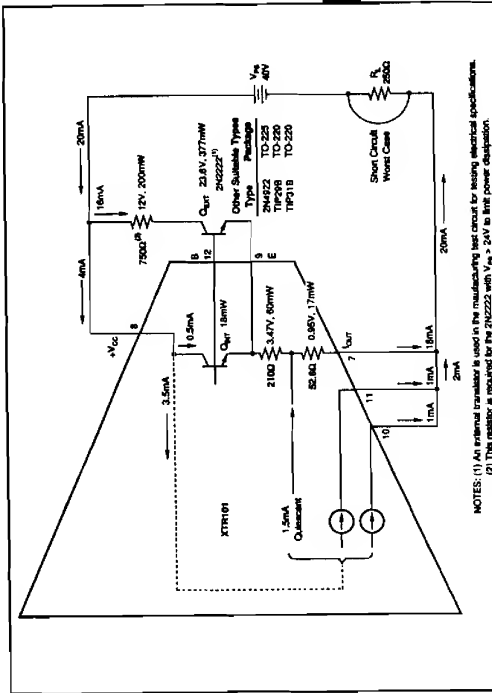

FIGURE 2. Power Calculation of XTR101 with External Transistor.
An optional external transistor, when used, is connected in parallel with the XTR101's internal transistor. The purpose is to increase accuracy by reducing heat change inside the XTR101 package as the output current spans from 4-20mA. Under normal operating conditions, the internal transistor is never completely turned off as shown in Figure 2. This maintains frequency stability with varying external transistor characteristics and wiring capacitance. The actual "current sharing" between internal and external transistors is dependent on two factors: (1) relative geometry of emitter as well as (2) relative package dissipation (case size and thermal conductivity). For best results, the external device would have a larger base-emitter area and smaller package. It will, upon turn on, take about $[0.95 (I_0 - 3.3mA)]/m^2A$. However, it will heat faster and take a greater share after a few seconds.
tions shown in Figure 2. Thus the 2N2222 will safely operate below its 400mW rating at the upper temperature of $+85^\circ C$. Heat sinking the 2N2222 will result in greatly reduced accuracy improvement and is not recommended.